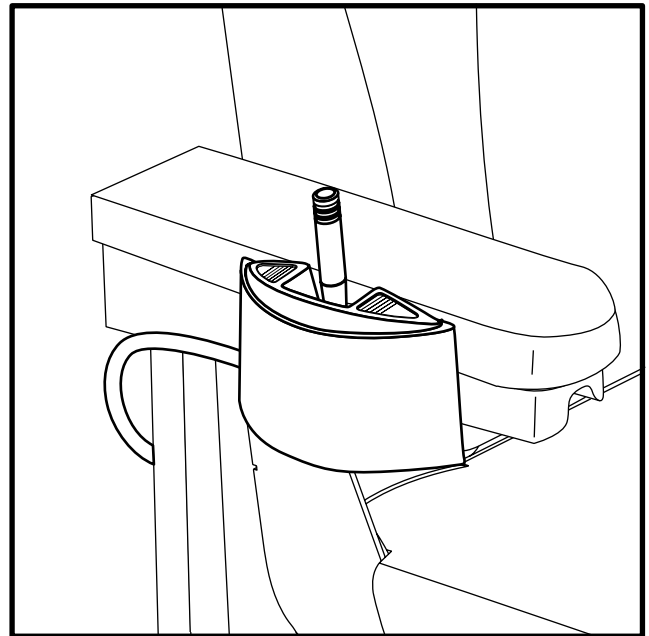

Figure 27. Power Seat Toggle Switch
1. Press forward on the toggle switch to raise the seat. See figure 27.